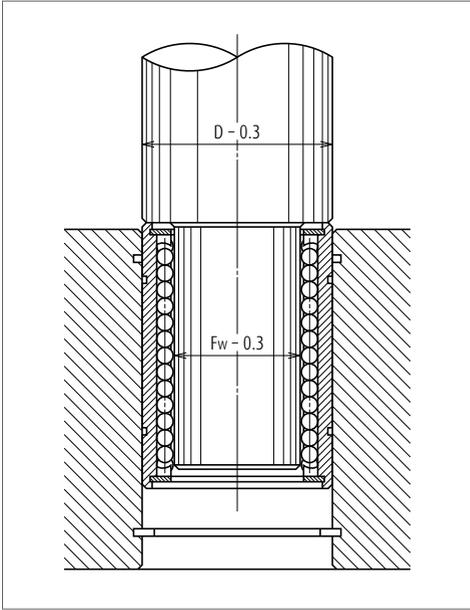

Fig. 10 Tool to install a linear rolling bushing
- To install linear rolling bushing, use a tool (**Fig. 10**) and squeeze it in, or use a holder and lightly pound it.